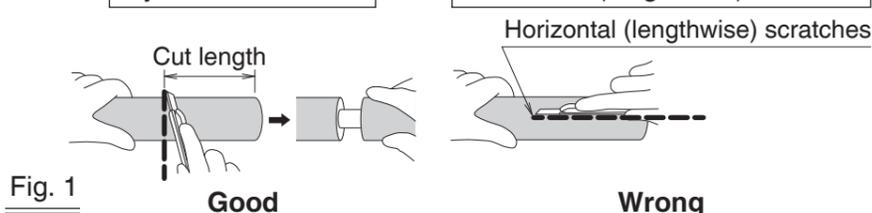

Fig. 1
• Being careful not to damage the piping, cut away the thermal insulation in the cylindrical direction. (See Fig. 1)